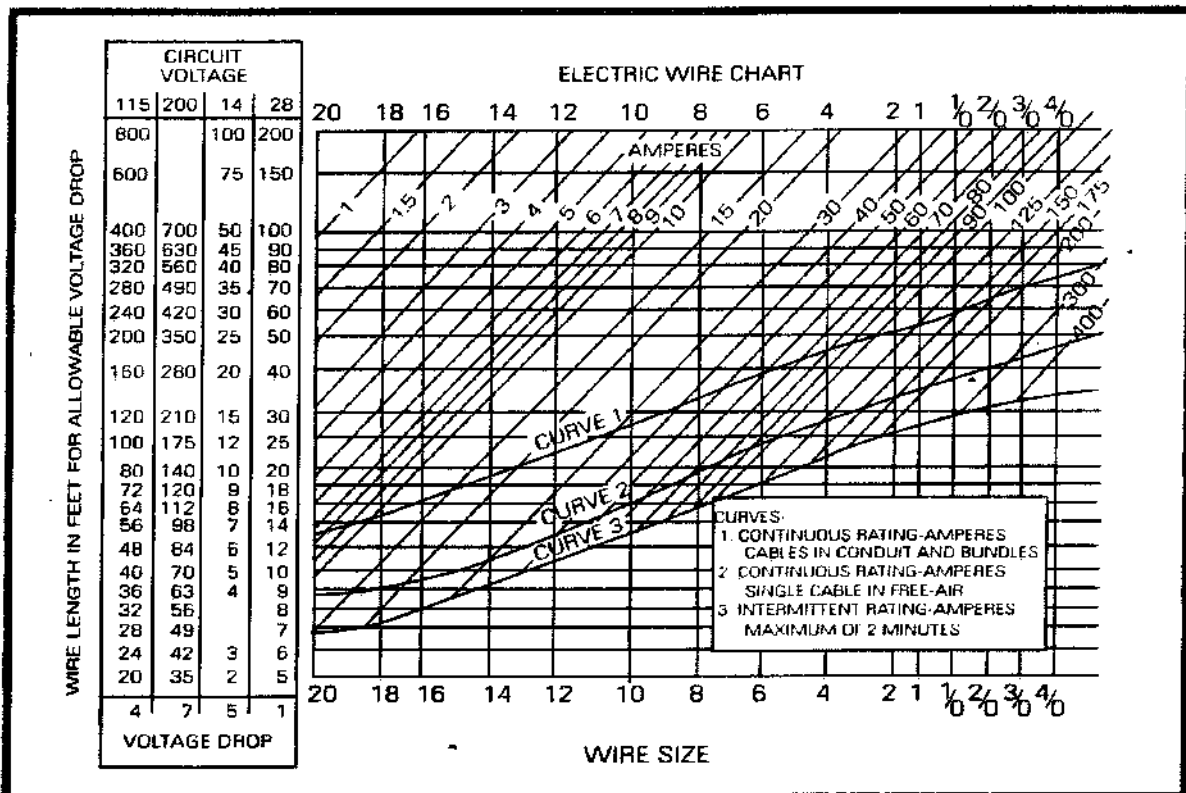

Fig. 3.14. Electric Chart.
46. (refer to figure 3.14) Determine the cable size of a 40-foot length of single cable in free air, with a continuous rating, running from a bus to the equipment in a 28-volt system with a 15-ampere load and a 1-volt drop.
47. (Refer to figure 3.14) Determine the maximum length of a No. 16 cable to be installed from a bus to the equipment in a 28-volt system with a 25-ampere intermittent load and a 1-volt drop.
48. (Refer to figure 3.14) Determine the minimum wire size of a single cable in a bundle carrying a continuous current of 20 amperes 10 feet from the bus to the equipment in a 28-volt system with an allowable 1-volt drop.
49. (refer to figure 3.14) Determine the maximum length of a No. 12 single cable that can be used between a 28-volt bus and a component utilizing 20 amperes continuous load in free air with a maximum acceptable 1-volt drop.